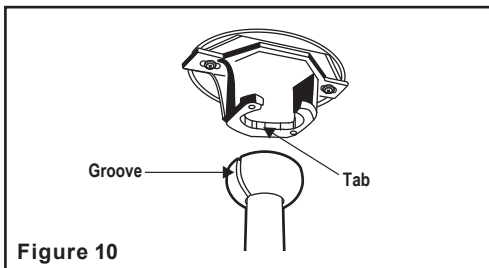

Figure 10
**Step 9.** Place the downrod ball into the hanger bracket socket. (Fig. 10)